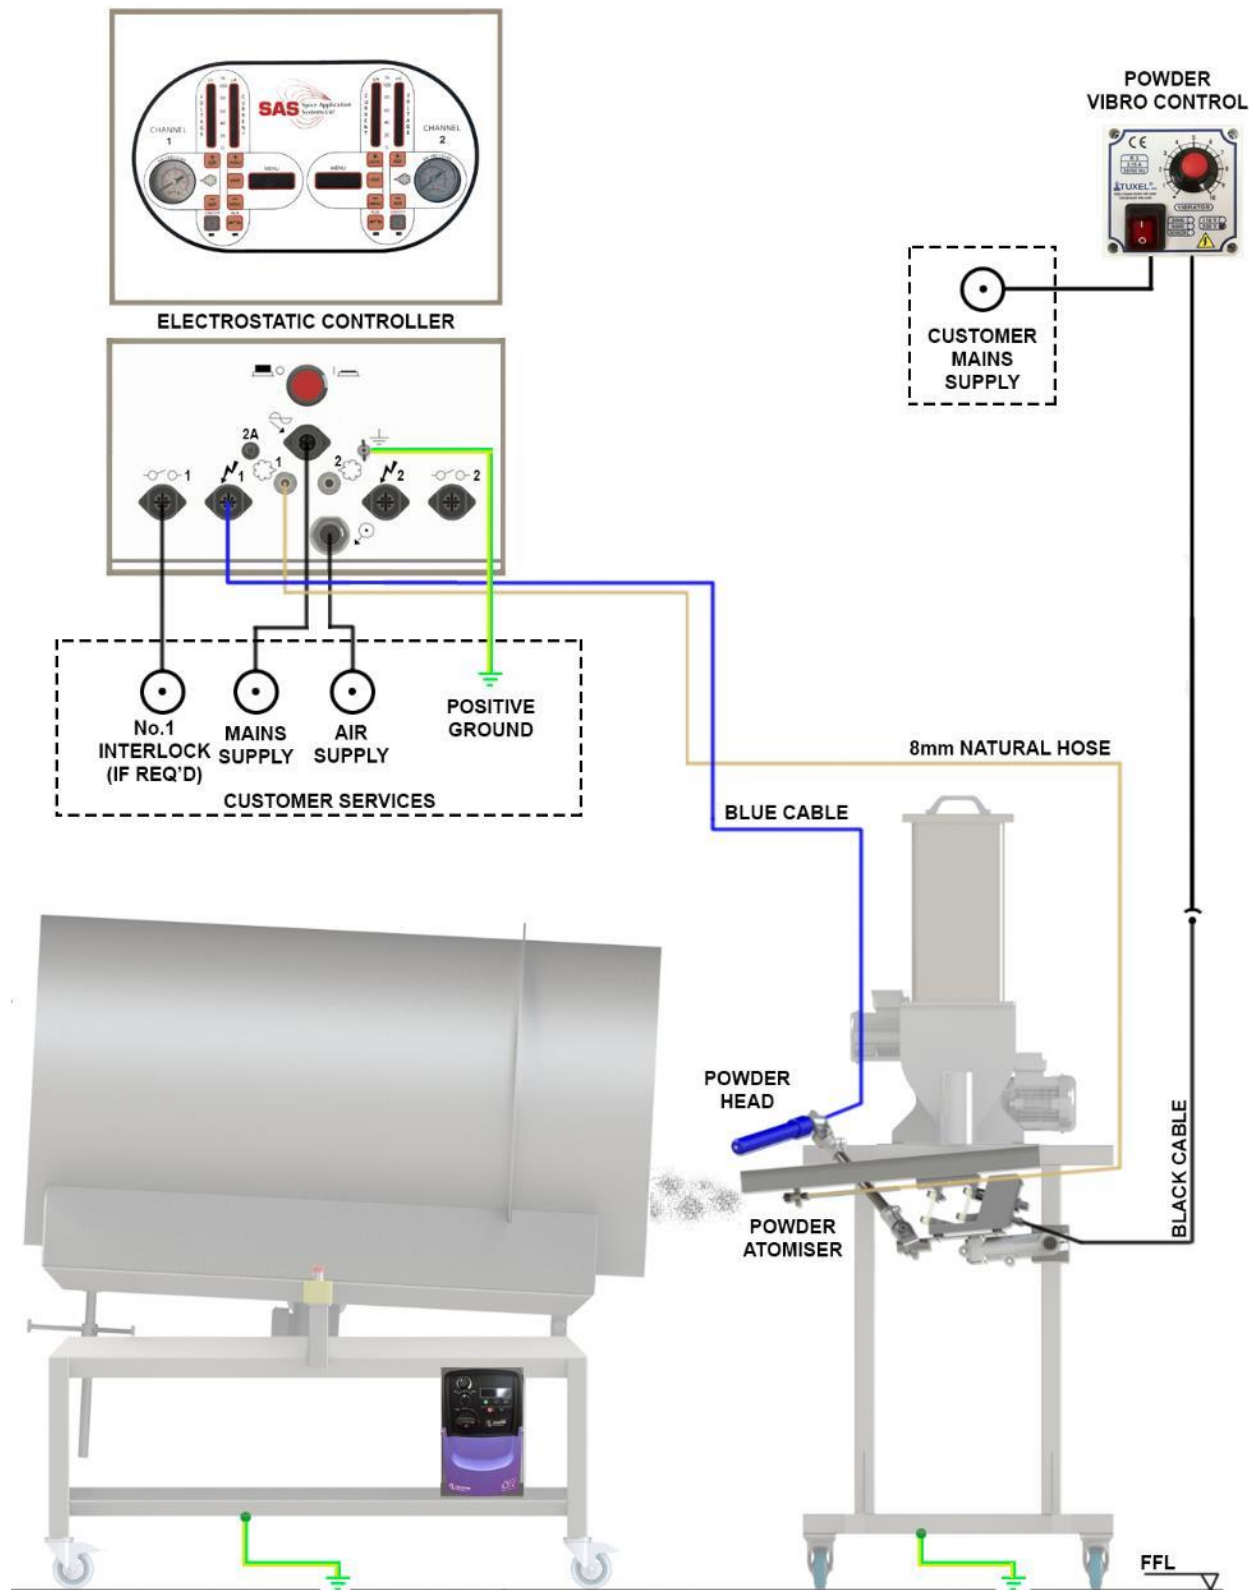
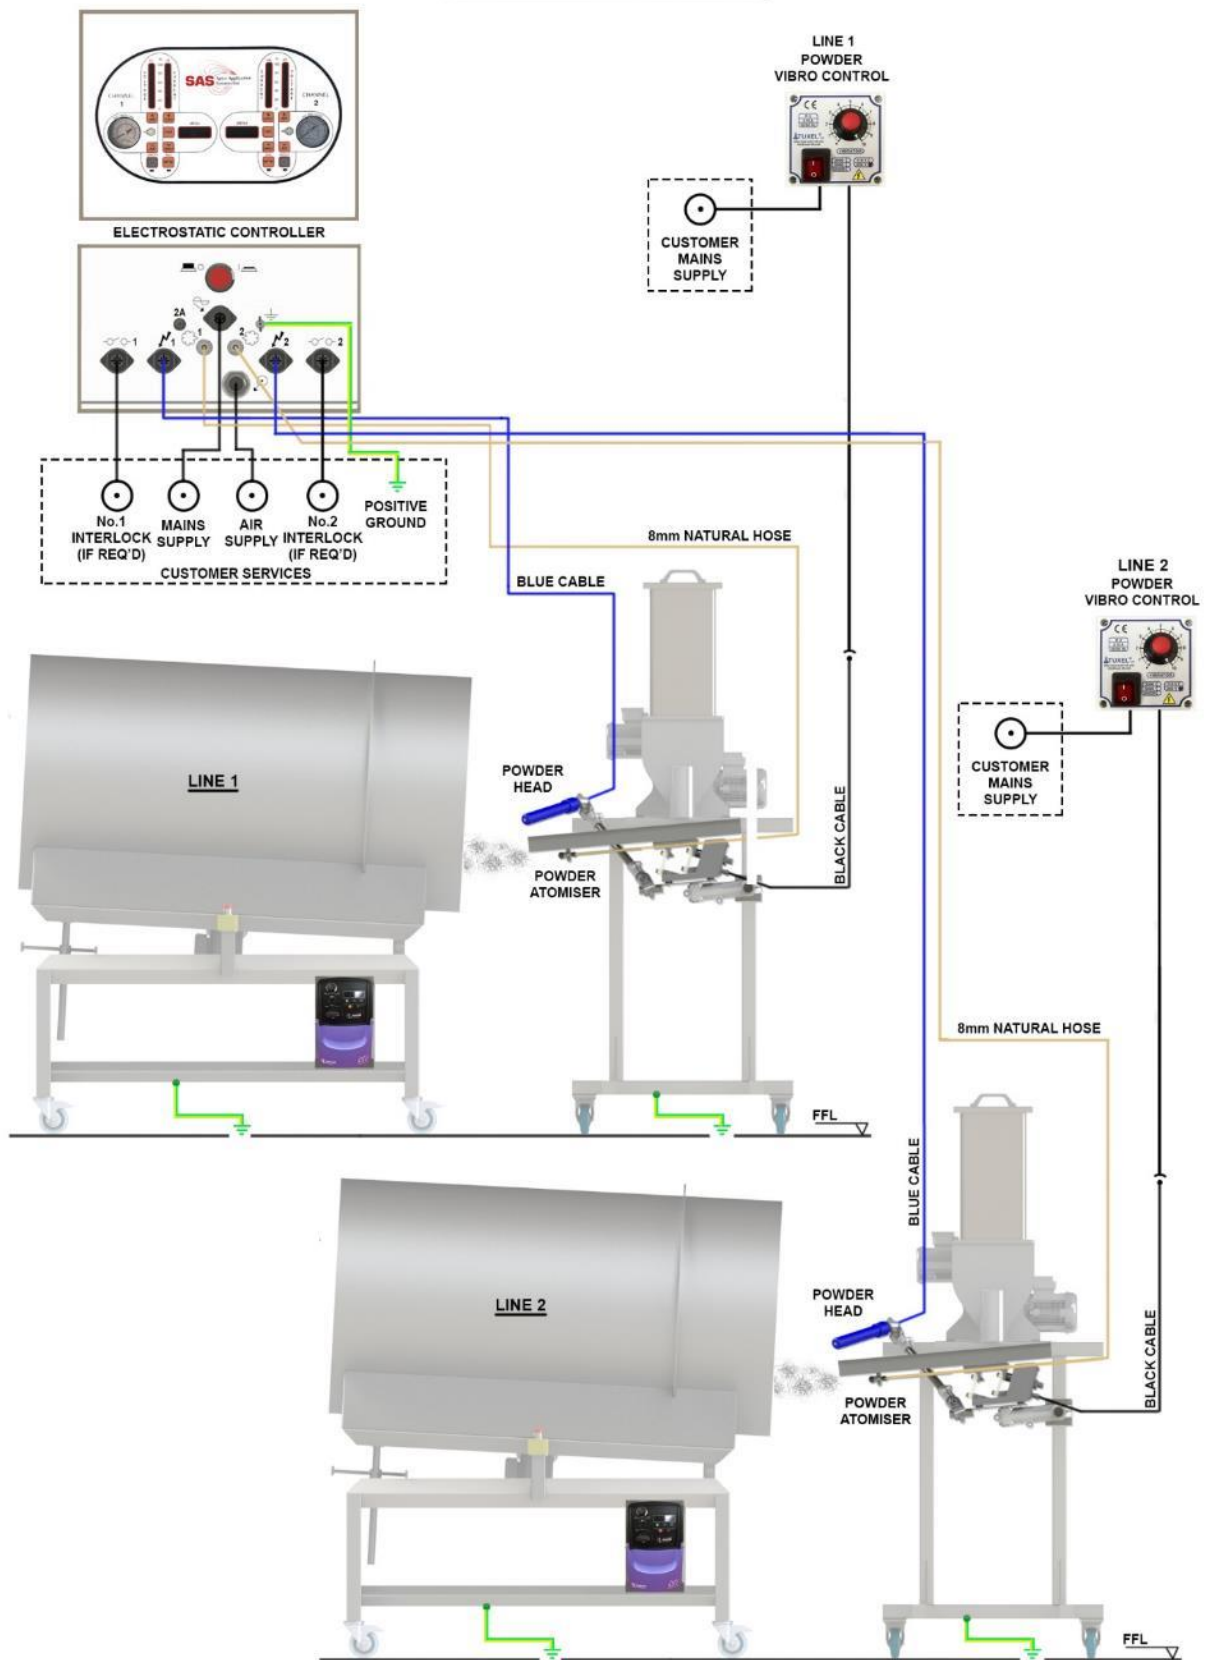

Fig 2
Fig 3
24. For all Interconnection details of the equipment, please refer to Page 10 - Fig 2 or Page 11 - Fig 3 for your appropriate application.